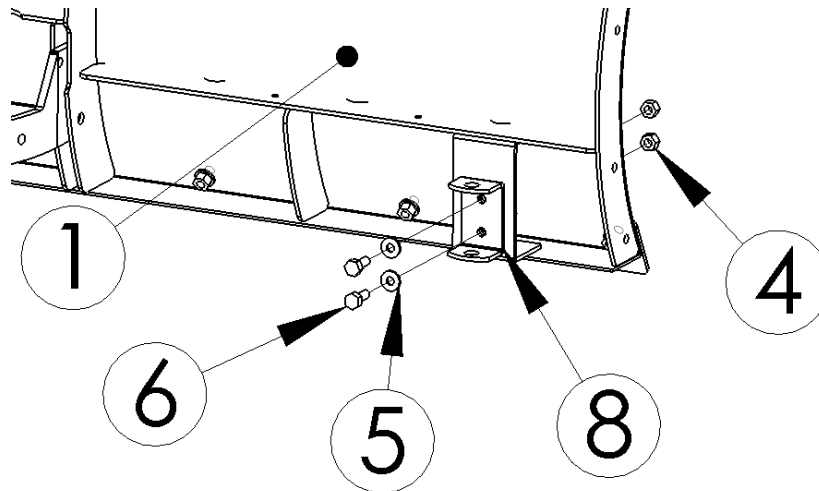

Figure 3
- 3) Attach the Skid Feet Brackets (#8) to the back side of the snow plow blade (#1) using the 3/8" Hex Head Bolts (#6), 3/8" Washers (#5) and 3/8" Nuts (#4). See **Figure 3**.